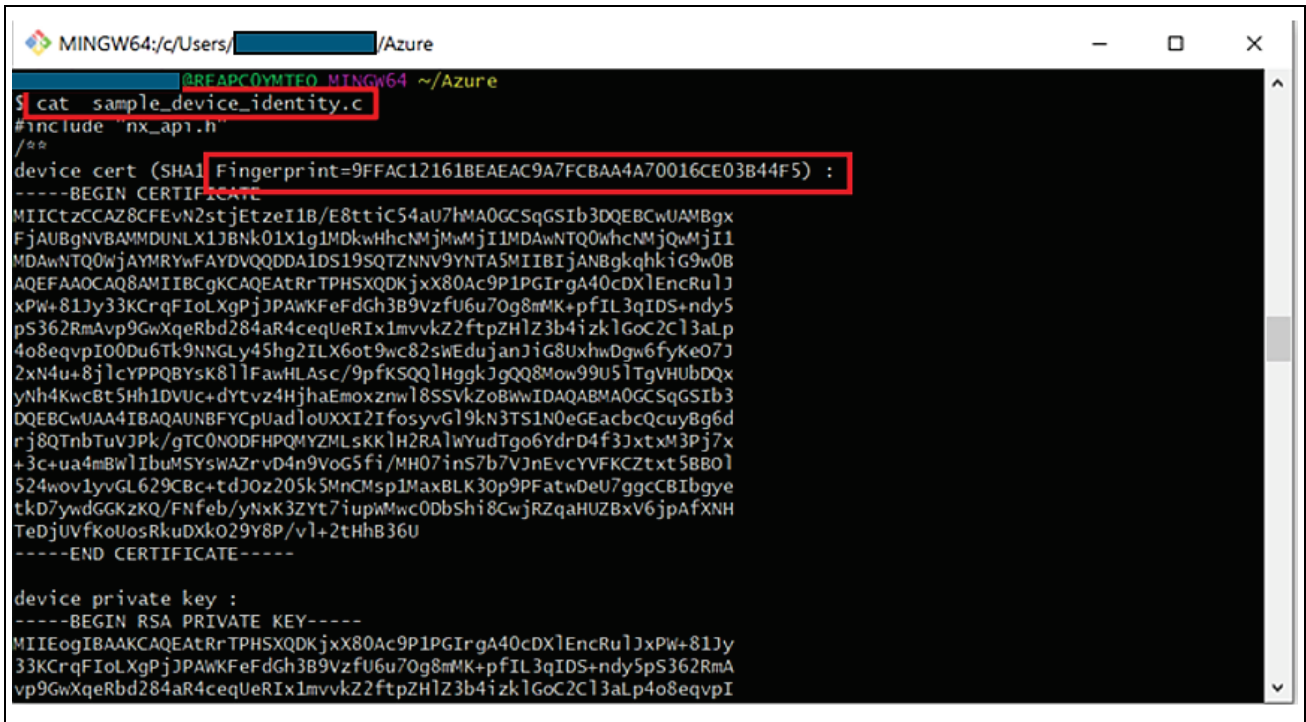

Figure 24. Check the content of sample\_device\_identity.c
- In this stage, you have to give Device ID, Authentication type, Primary thumbprint, Secondary thumbprint then click on **Create**. Use fingerprint generated in previous section (**Figure 24. Check the content of sample\_device\_identity.c**) for the primary and secondary thumbprints.